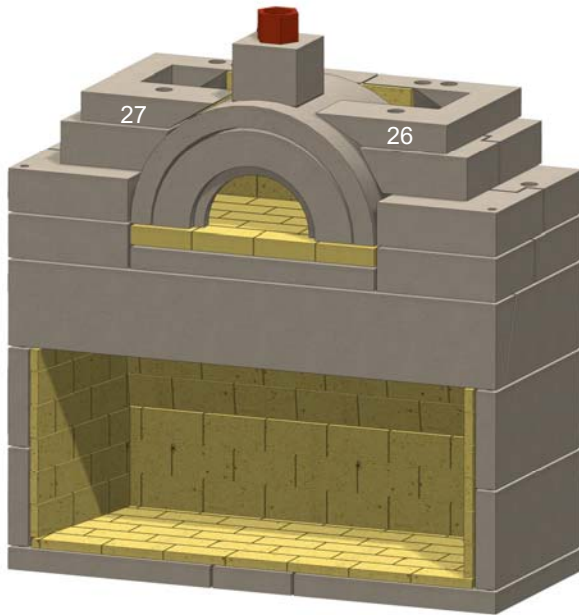

Figure 32. Throat Cap Pieces
W. Install the throat cap pieces (26 & 27). See Figure 32.